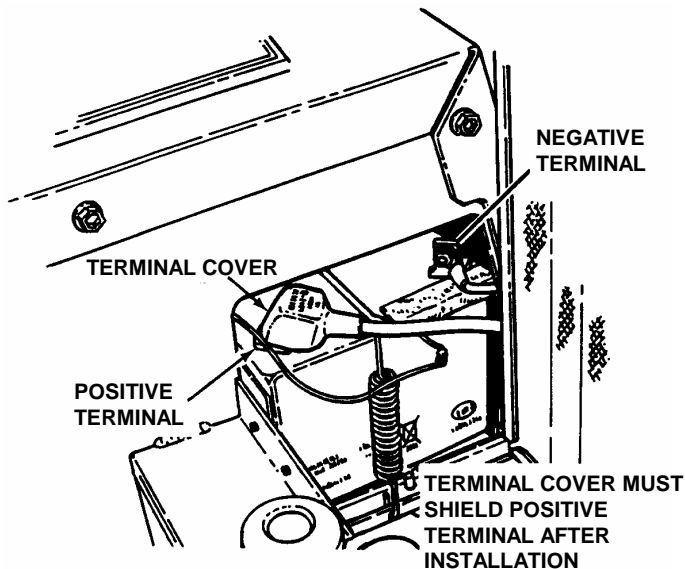

FIGURE 4.10
3. Observe and note cable positions on battery. See Figure 4.10.